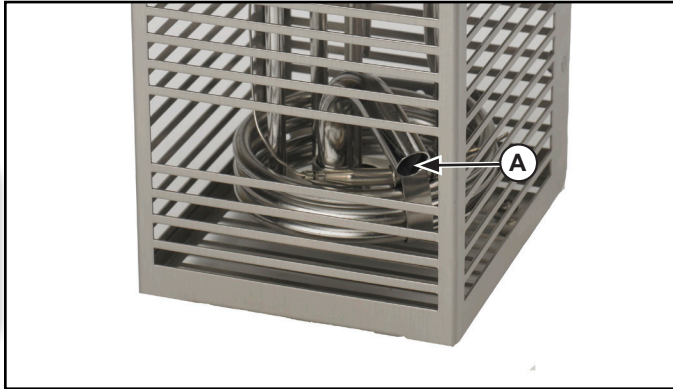

Figure 5. Water Pump Outlet.
4. Monitor water level when adding, removing and heating food product. The water level should be between 1" and 2" (25 mm - 50 mm) from the top of the bath or vessel. Never allow the water level to drop below the water pump outlet (A) during operation. See Figure 5.